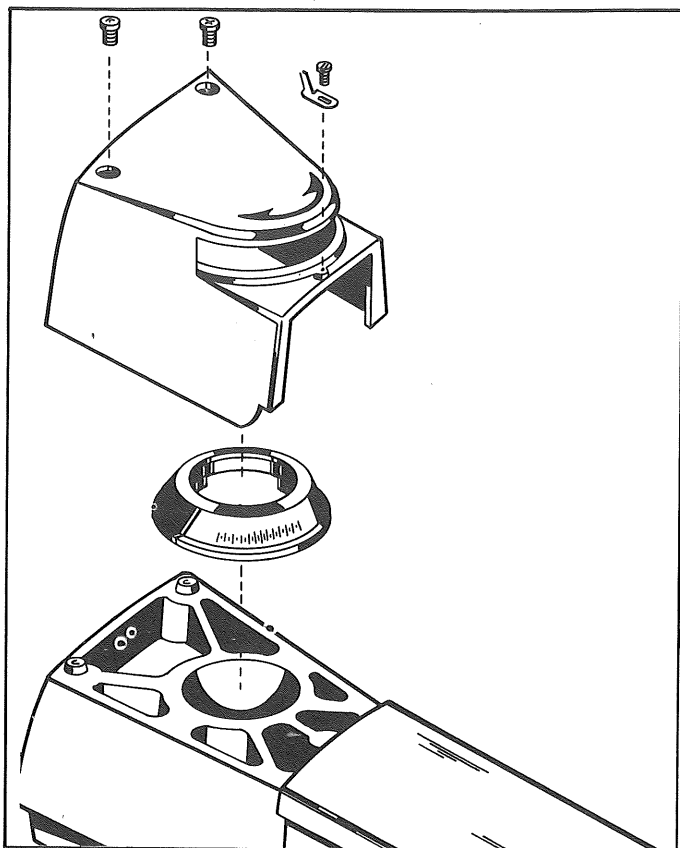

FIG. 27
5. Remove the two screws from the top of the arm hood and the index screw and pointer. Lift off the hood Fig. 27.